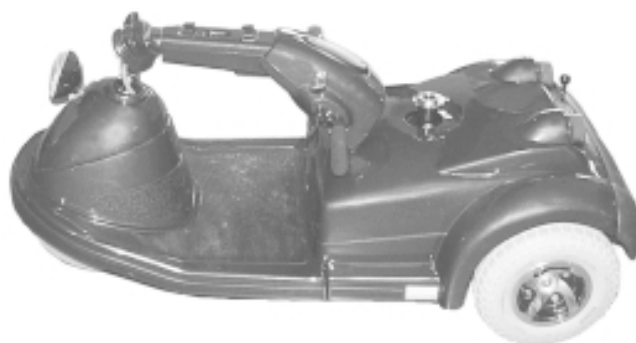

FIGURE 17. LOWERING THE TILLER
3. Grasp the handle grip on the tiller and carefully depress both tiller release buttons, then slowly lower the tiller. See figure 17.